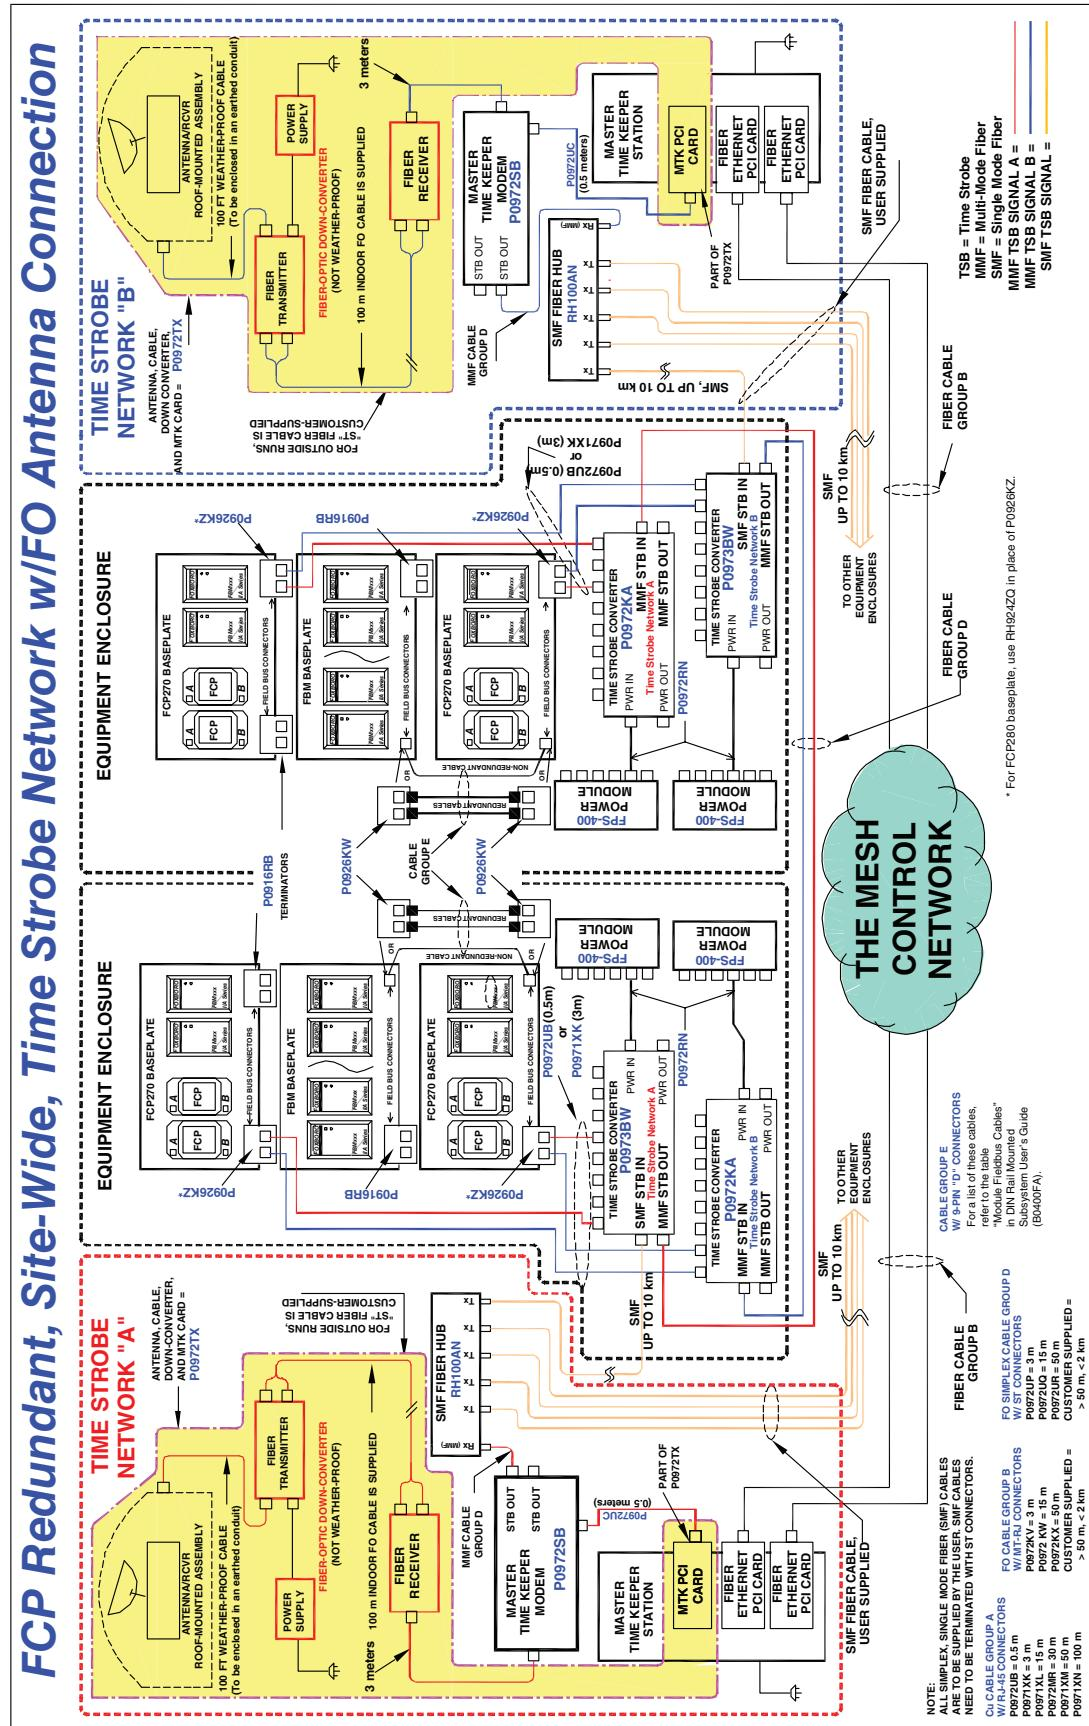

Figure A-5. Site-Wide Network-FCP270 with Wire Antenna, Redundant Fiber Cabling
- ◆ Site-Wide Time Strobe Network - FCP270 with Wire Antenna Connection, Redundant Fiber Cabling (Figure A-5)